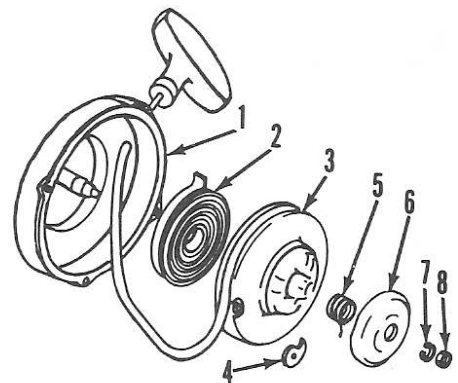

Fig. Y4-11—Exploded view of manual starter.
**R&R AND OVERHAUL.** Refer to Fig. Y4-11 for an exploded view of the manual starter used on all models. To disassemble the starter, pull the rope handle to extend the rope. Hold the rope pulley, then pull the rope into the notch in the pulley edge. Release the rope pulley and
allow the pulley to rewind until spring tension is released. Unscrew nut (8—Fig. Y4-11) and remove components (3 through 7) while being careful not to dislodge rewind spring (2). If the rewind spring must be removed, tap the housing with the spring side down against the floor or bench so the spring will dislodge and uncoil inside the housing.